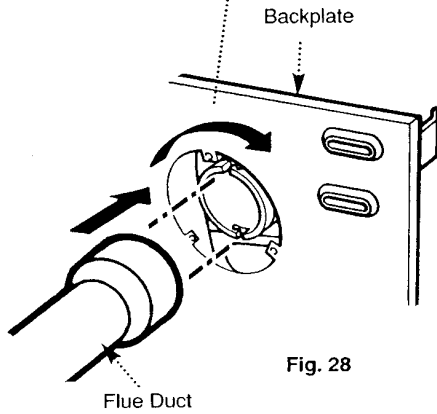

Fig. 28
3. Locate the flared end of the flue duct over the bayonet fitting on the turret, taking care not to damage the 'O' ring. Lock the flue duct in place by pressing in and turning clockwise (Fig. 28).